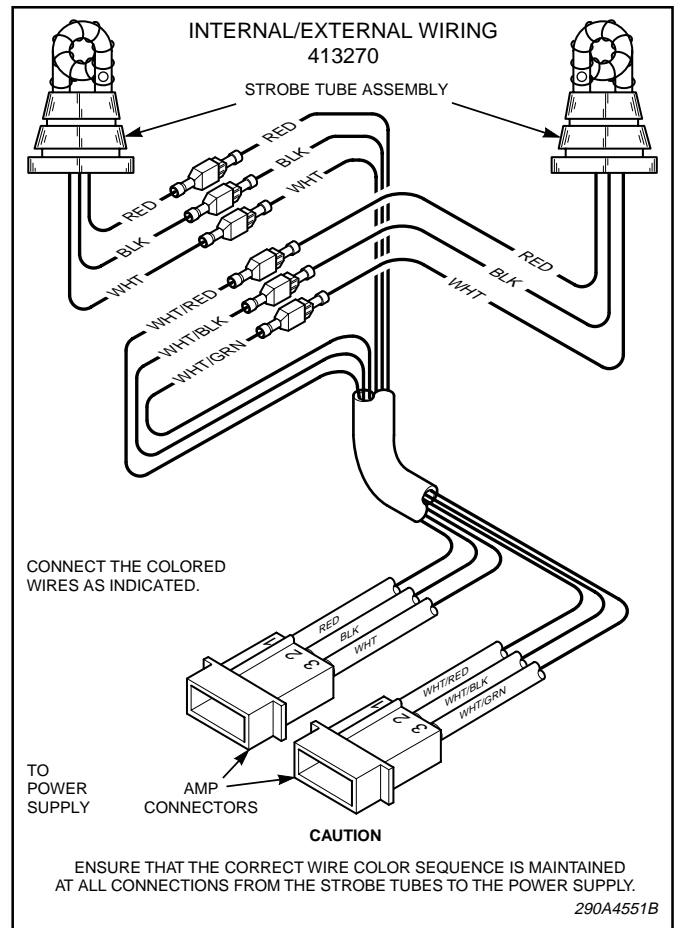

Figure 4.
The light assemblies are supplied with a 7-foot cable with AMP terminals. See figure 4. Perform the electrical connections as described in the instructions packed with the power supply and the cable kit. Test the unit for proper operation.
g. See figure 4. Reconnect the 1/4" quick disconnects and observe the proper wiring as shown. Reassemble the unit.
Figure 4 shows Model 413270's internal/external wiring.